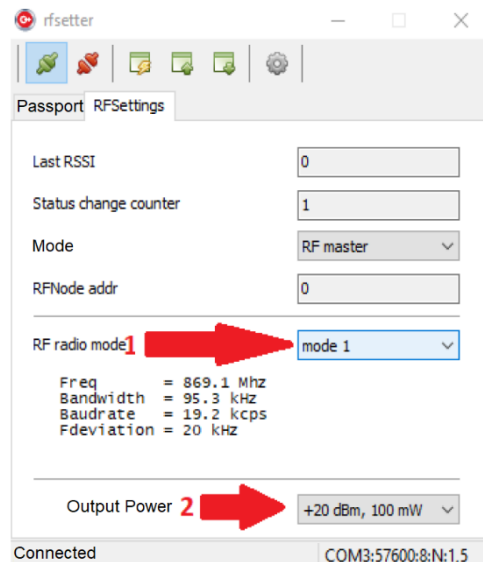

Figure 9. Setup of connection in the “rfsetter” software
3. Setup tab “RFSettings” (see Fig. 9).
Select channel on which the antennas will work together (see number 1 on Fig. 9). The "MASTER" and the "SLAVE" antennas must have the same channel selected, for example “mode 1”.
Select output power (see number 2 on Fig. 9).